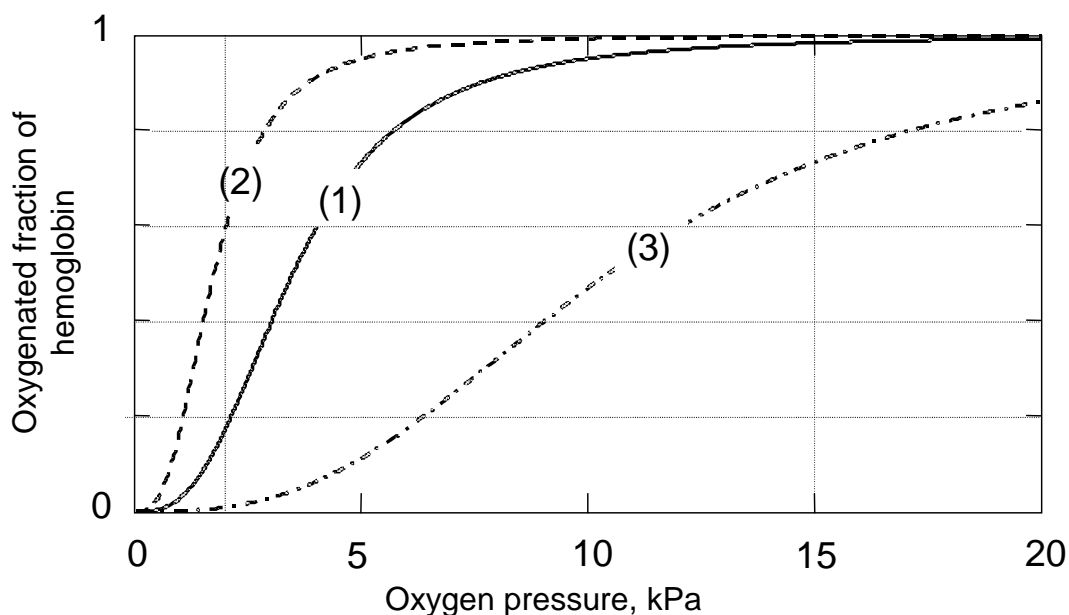

Figure 1
Each Hb molecule can take up four molecules of O2. Blood in contact with O2 absorbs a fraction of this amount, depending on the oxygen pressure, as shown in Figure 1 (curve 1). Also shown are the curves (2) and (3) for blood with two kinds of deficient Hb. These occur in patients with certain hereditary diseases.
- 1.2 Estimate from Figure 1 (to 2 significant figures) how many moles of O2 are deposited in muscle tissue when one mole of Hb travels from the lungs to the muscles and back again for the three different types of Hb.